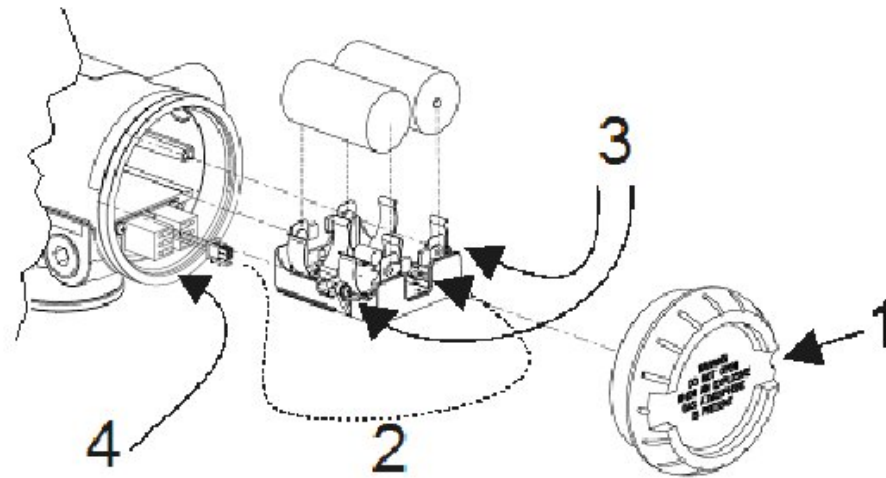

Figure 12 Terminal board replacement
2	Loosen the M3 locking set screw on the battery end-cap (opposite end from display). See item 1 in Figure 12. Unscrew and remove the end cap.
3	Using thumb and forefinger, squeeze the battery connector at top and bottom to disengage the locking mechanism, then pull to disconnect. See item 2 in Figure 12.
4	Loosen the two battery holder retaining screws (closest to the batteries). See item 3 in Figure 12. The screws are captive.
7	Remove and save the 3 screws that attach the terminal board to the housing. Take care because these screws are not captive. See item 4 in Figure 12.